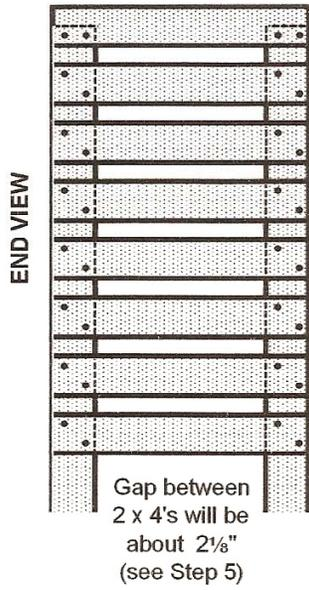

Figure 6
STEP 6: Place the 2 caddy end assemblies on edge. Using the same procedure outlined in Step 1 make sure the 2 end assemblies are square and parallel to each other and 62" to outside edges of attached 2x4's. (Figure 6).